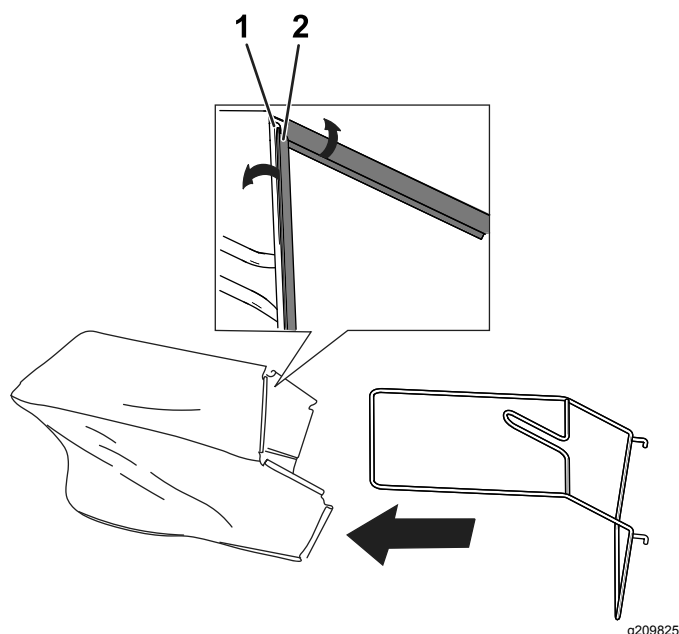

Figure 8
1. Slide the grass-bag frame into the grass bag (Figure 8).
2. Position all 6 grass-bag clips over the grass-bag frame (Figure 8).